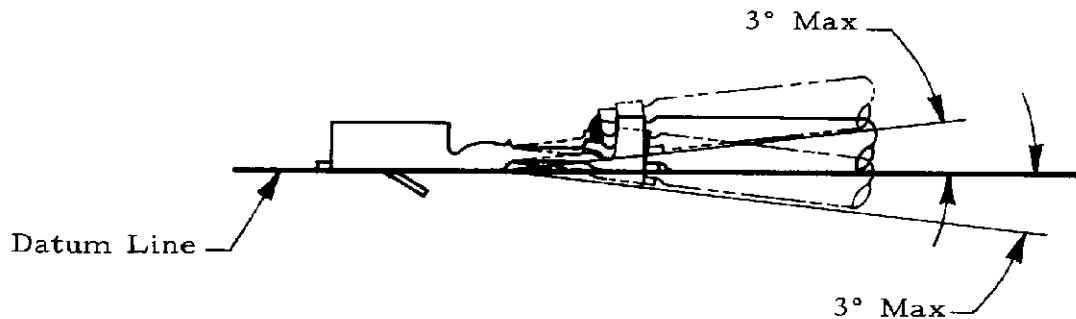

Figure 3
- (1) The contact, including the cutoff tab and burr shall not be bent above or below the datum line more than the amount shown in Figure 3.